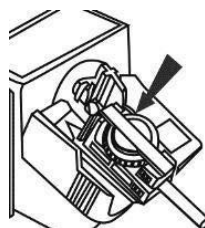

Fig. 2
5. Mount the clamp onto the setting slot (E) (Fig. 2).